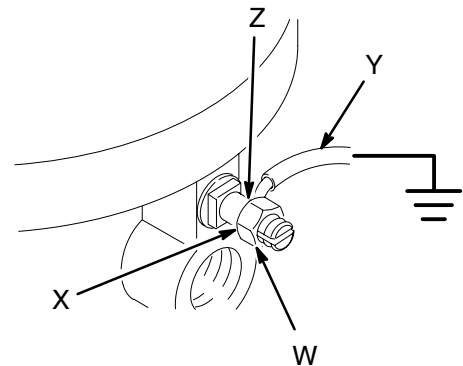

Fig. 1
1. *Pump:* use a ground wire and clamp. See Fig. 1. Loosen the grounding lug locknut (W) and washer (X). Insert one end of a 12 ga. (1.5 mm²) minimum ground wire (Y) into the slot in lug (Z) and tighten the locknut securely. Connect the other end of the wire to a true earth ground. For a ground wire and clamp, order Part No. 237569.